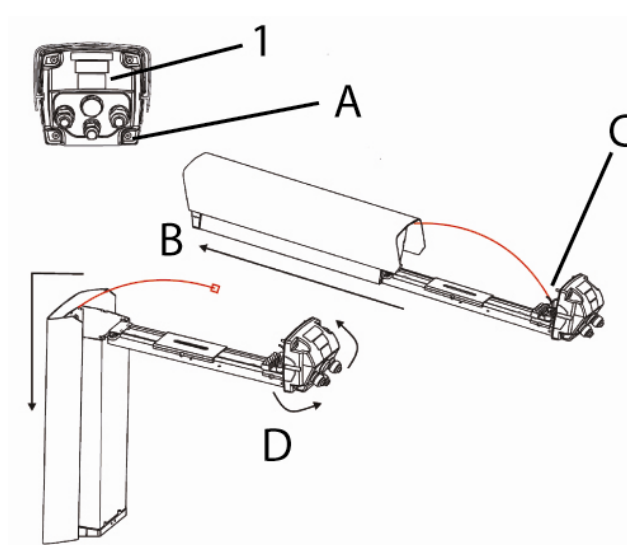

Fig. 4 Inside the housing enclosure
1. Using the ALLEN key provided, loosen but do not completely remove the 4 securing screws **(A)** (See Fig. 4).